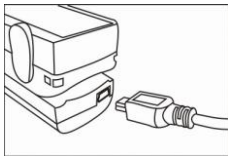

Fig.18
4.2.1 Connect the oximeter with attached the USB cable, as shown in Fig.18.